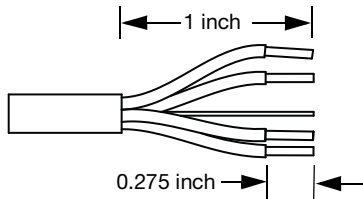

Figure 45: Stripping Cable Shielding and Wires
1. If the cable has not yet been stripped, strip one end of the cable. Strip the outer shielding by 1 inch and then strip the black, red, blue, and white wires by 0.275 inch (Figure 45).